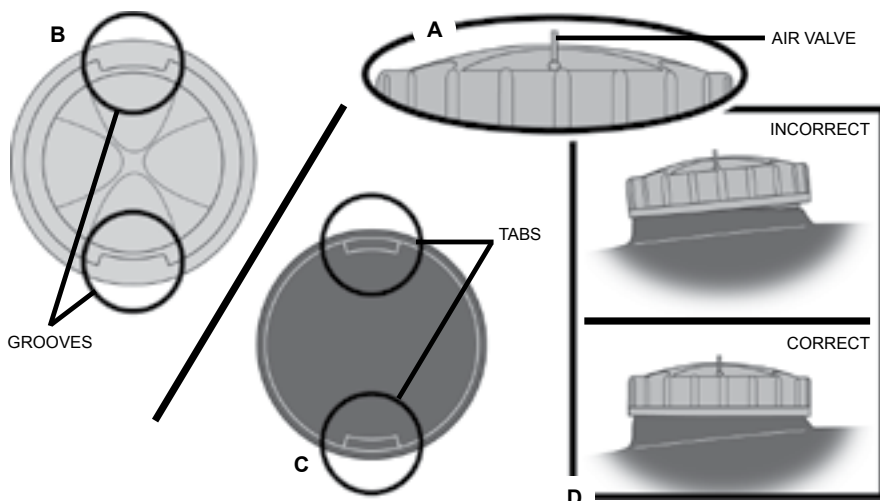

FIGURE 8
**NOTE: Do not remove or cut small rubber air valve on top of Water Tank Cap (FIGURE 8-A). Do not turn unit upside-down when Water Tank is full - a small amount of water may leak out.**
4. Replace Water Tank Cap so that thread grooves on bottom of Cap (FIGURE 8-B) align with tabs inside Fill Hole (FIGURE 8-C). Press Water Tank Cap down so that it sits flush with top of Fill Hole (FIGURE 8-D). Rotate one quarter turn in clockwise direction (as indicated by “lock” illustration on Cap) to lock it in place.